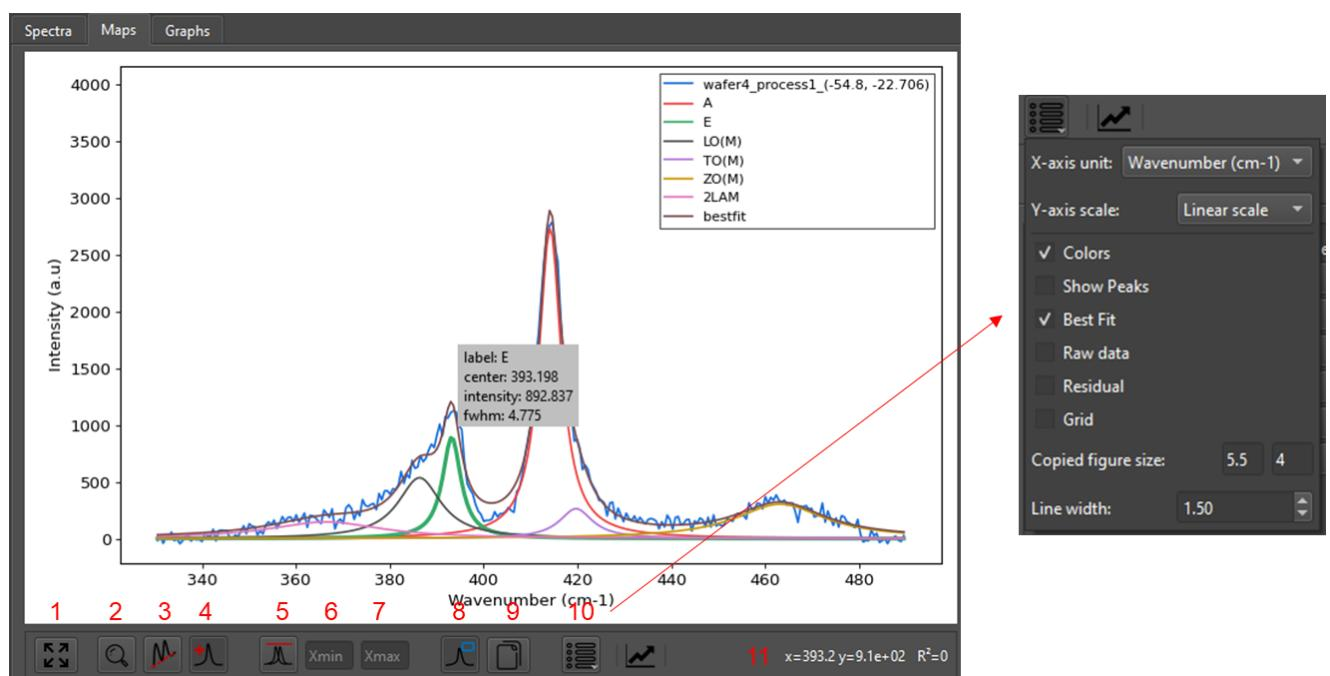

Figure 4: Spectra Viewer (left) widget and View Options Menu (right).
- **Show Peak Parameters:** Hovering the mouse cursor over a peak displays a pop-up with the peak parameters (label, intensity, FWHM, position), as shown in Figure 4.